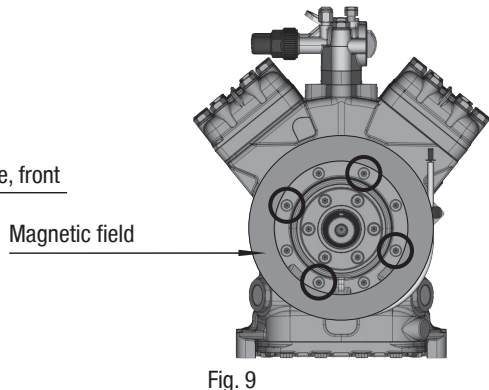

Fig. 9
- Slide the magnetic field to a snug fit and re-attach using the four cheese head screws M8 (Fig. 9). Screw torque = 37 Nm.